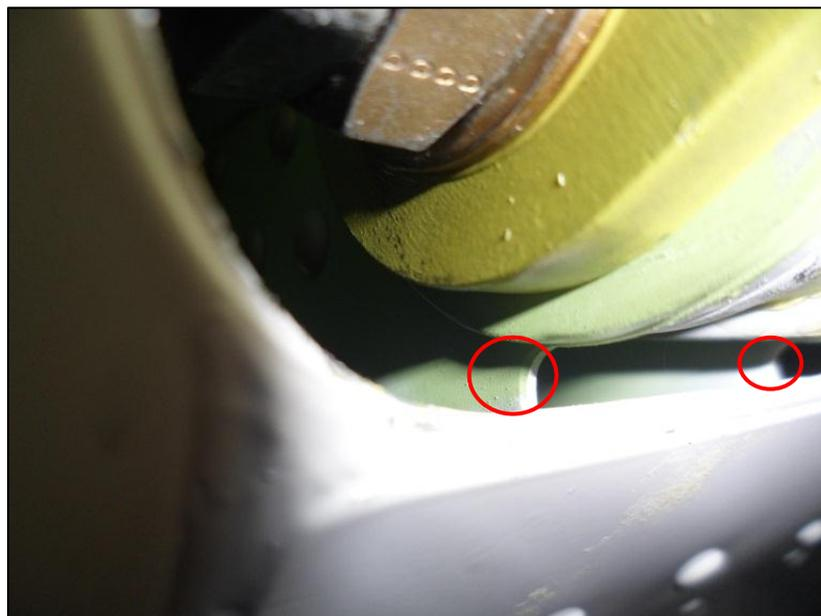

Figure 2: Region of potential crack development
4. If a crack is found on any of the ribs within the region shown by red circles in Figure 2, proceed to step 5, otherwise skip to step 12.